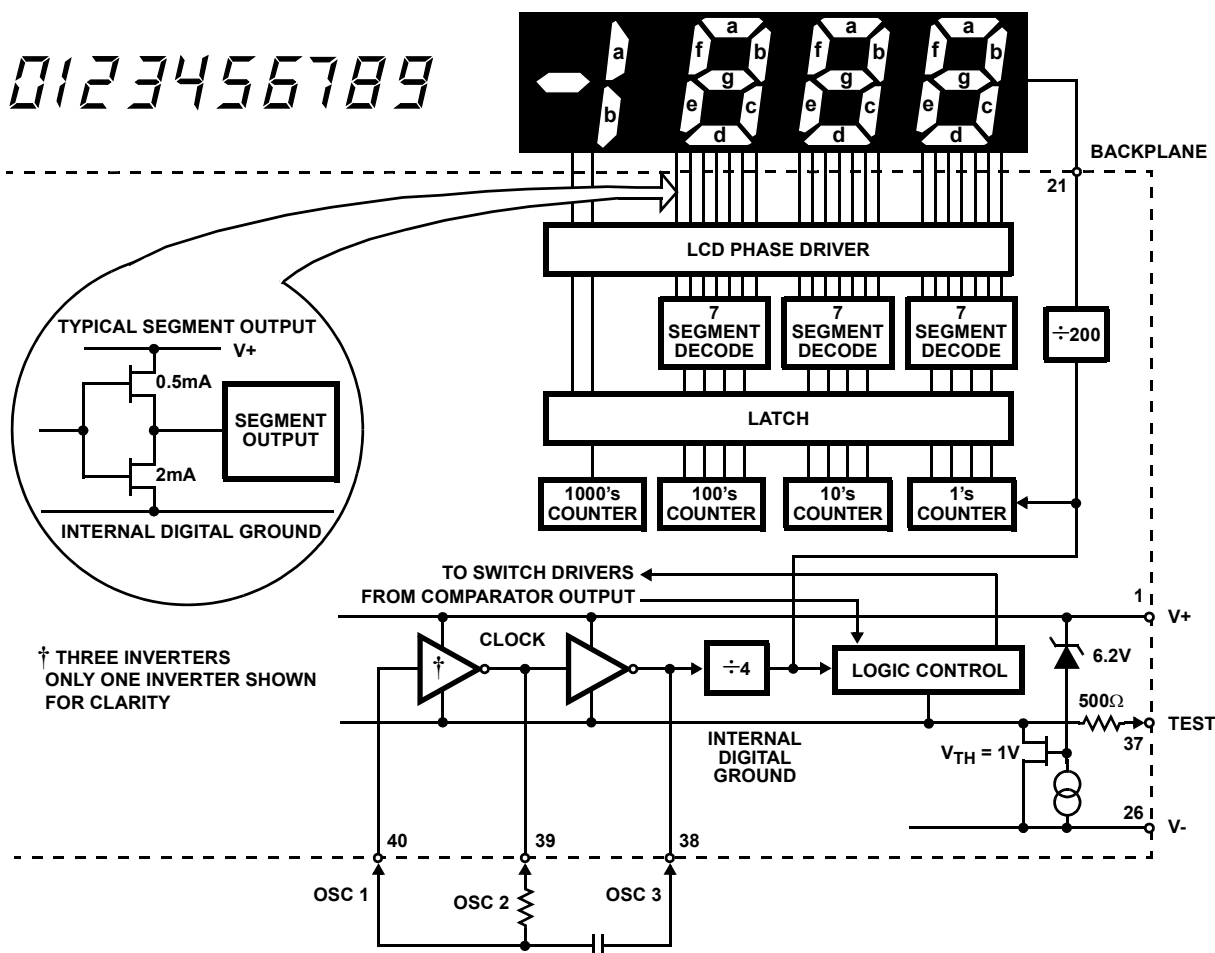

FIGURE 6. ICL7136 DIGITAL SECTION
Figure 6 shows the digital section for the ICL7136. In the ICL7136, an internal digital ground is generated from a 6V Zener diode and a large P-Channel source follower. This supply is made stiff to absorb the relatively large capacitive currents when the back plane (BP) voltage is switched. The BP frequency is the clock frequency divided by 800. For three readings/second this is a 60Hz square wave with a nominal amplitude of 5V. The segments are driven at the same frequency and amplitude and are in phase with BP when OFF, but out of phase when ON. In all cases negligible DC voltage exists across the segments.